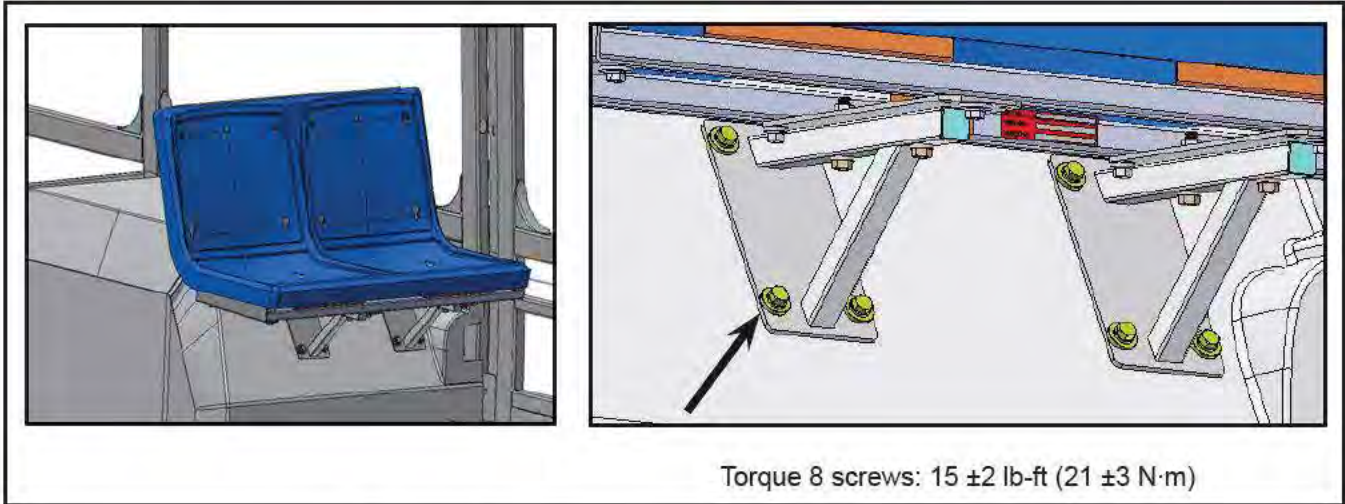

Figure 8 - Torque to Apply for Transversal Seat (Typical)
- Torque the screws to the torque value shown in Figure 8.